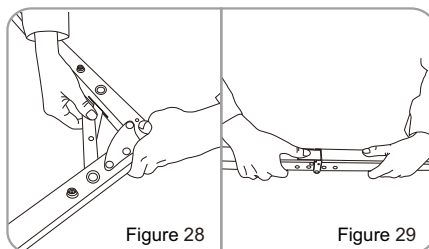

Figure 29
4. Release the support beam on frame corners (Figure 28) as well as the locking buttons on the frame, then fold the frame from both sides (Figure 29).